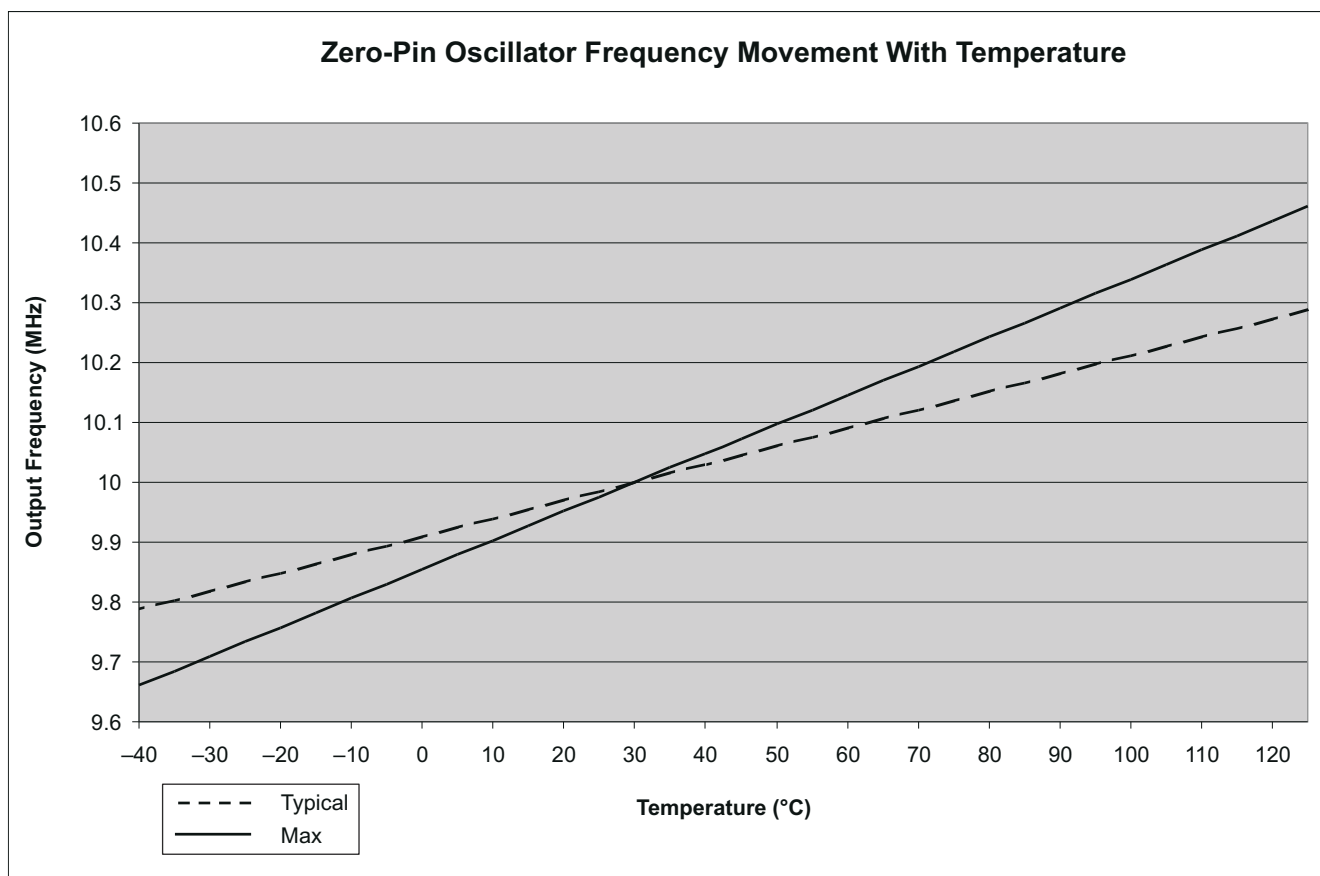

Figure 7-9. Zero-Pin Oscillator Frequency Movement With Temperature
- (1) Oscillator frequency will vary over temperature, see Figure 7-9. To compensate for oscillator temperature drift, see the Oscillator Compensation Guide and C2000Ware for C2000 MCUs.
- (2) Frequency range is ensured only when VREG is enabled, $\overline{\text{VREGENZ}} = \text{V}_{\text{SS}}$.
- (3) Output frequency of the internal oscillators follows the direction of both the temperature gradient and voltage (V_{DD}) gradient. For example: